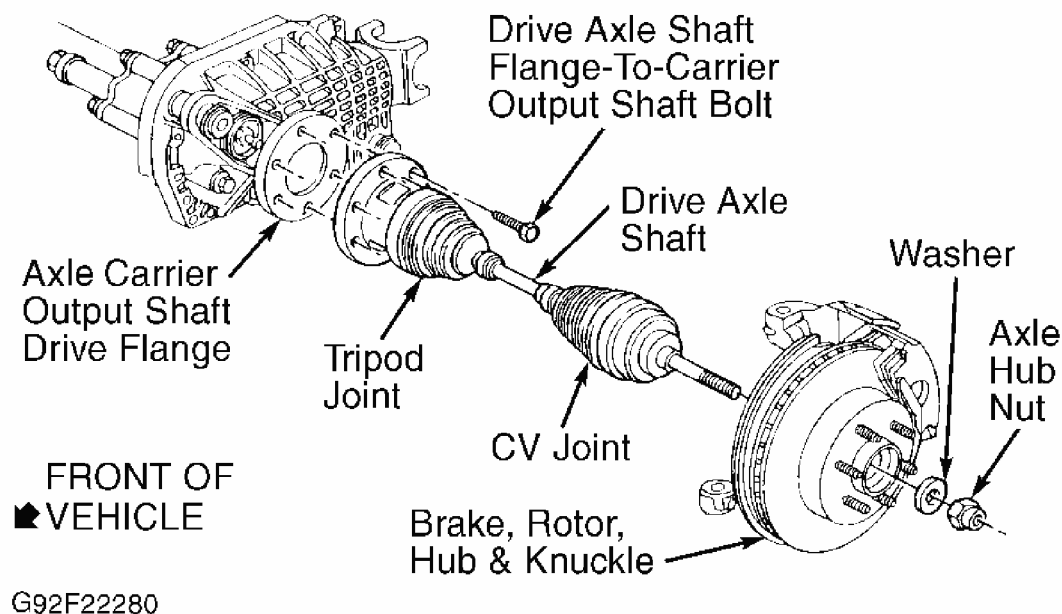

Fig. 2: Left Drive Axle Shaft With Tripot & CV Joints
2. Disconnect left outer tie rod end from steering knuckle using Steering Linkage Puller (J-24319-01). Wire tie rod aside. Insert a long drift through caliper and into disc rotor vanes to prevent rotation. Remove axle hub nut and washer from axle shaft CV joint. See **Fig. 2** . Loosen 6 axle shaft flange bolts securing tripod joint housing to axle carrier output shaft drive flange.